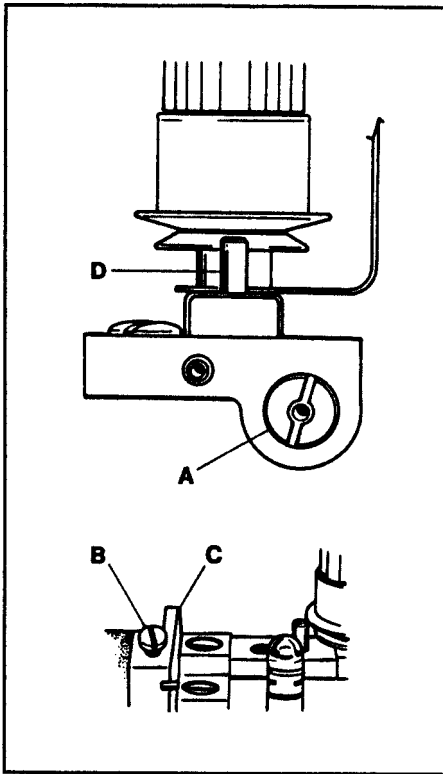

FIG. 36
The tension release should start to function when the presser foot has raised approximately 1/32" (0.8mm) above the surface of the throat plate and be entirely released when the presser foot has reached its highest position. Insert a large screwdriver into slot on the right end of shaft (A, Fig. 36), loosen screw (B) in lifter lever (C) and turn the screwdriver to raise or lower pins (D). Tighten screw (B).